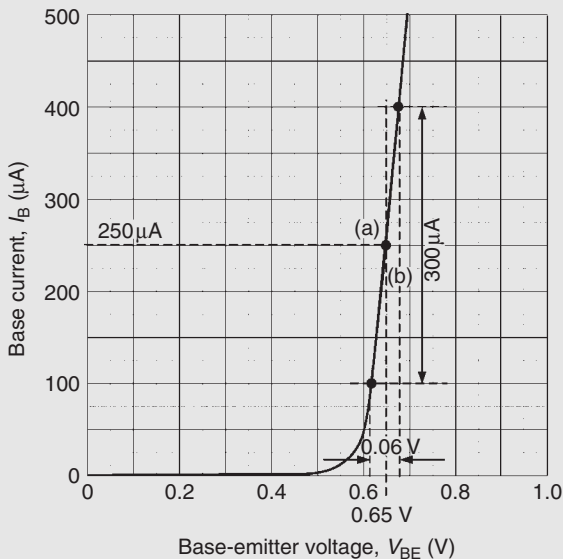

Figure 12.13
Problem 3. Figure 12.13 shows the input characteristic for an n-p-n silicon transistor. When the base-emitter voltage is 0.65 V, determine (a) the value of base current, (b) the static value of input resistance, and (c) the dynamic value of input resistance.
- (a) From Fig. 12.13, when $V_{BE} = 0.65$ V, **base current, $I_B = 250 \mu\text{A}$** (shown as (a) on the graph)
- (c) From Fig. 12.13, V_{BE} changes by 0.06 V when I_B changes by $300 \mu\text{A}$ (as shown by (b) on the graph). Hence,